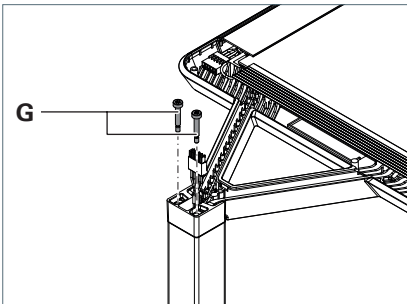

Fig. 4: Fixing the luminaire head in place.
- ▶ Fix the luminaire head in place using the two screws **G** and tighten the screws, see Fig. 4.